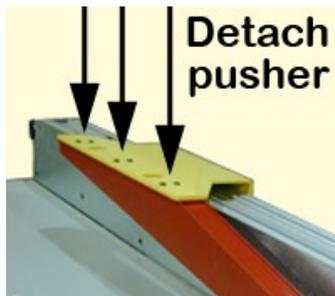

Fig. 2 — Remove 6 bolts to detach pusher.
2. Detach the pusher from the carriage by removing the attachment bolts (Fig. 2).